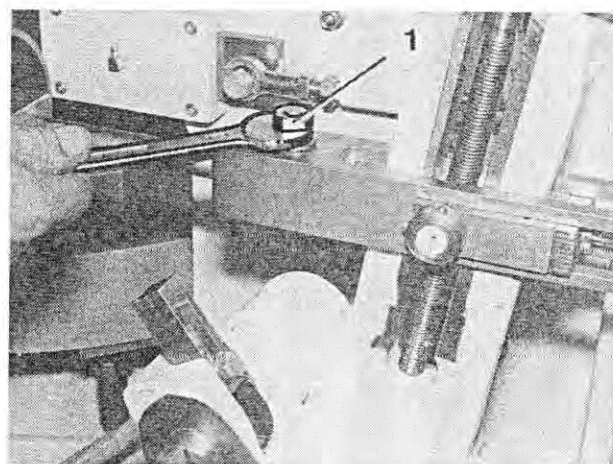

Fig. 245
4. Unscrew the hex nut (Figure 245/1) which keeps the dosing piston in position. Separate the joint and push the dosing piston into the rotary cylinder up to the stop.